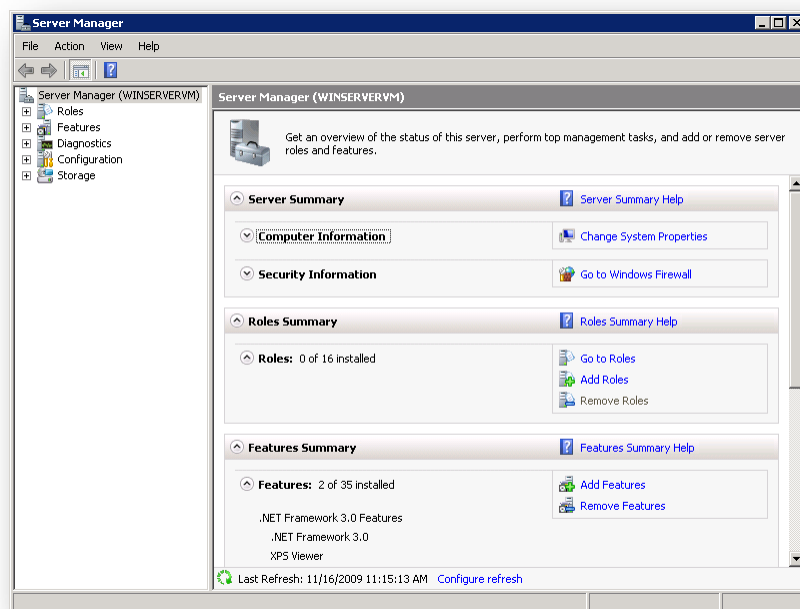

Figure 29 – Server Manager
2. If the Control Panel resembles Figure 29, the Control Panel is set to Category view. If the Control Panel is set to Category view, click on “Programs”, then click on “Programs and Features”.